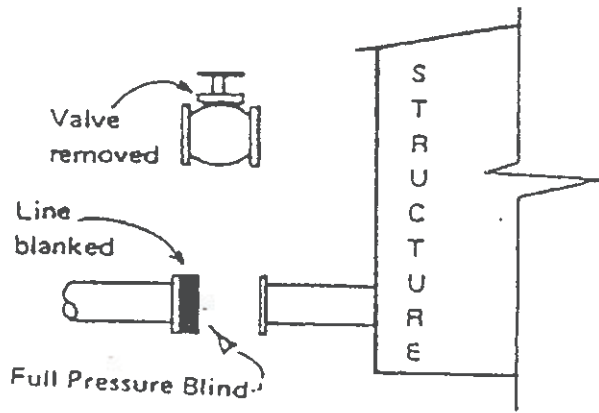
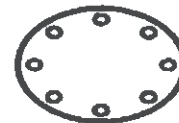

FIGURE 1
FIGURE 3
Open line shall be capped with a full pressure blind as illustrated in figures 1 and 2.
2. The use of slip blinds to isolate equipment or machinery from hazardous energy sources and/or hazardous materials is preferred over closing valves and locking them shut (lockout/tagout), disconnecting, misaligning, etc. See figure 3. The installation of a solid metal plate between two pipe flanges or on the end of a disconnected pipe to prevent any materials from being released.
Fisher Tank Company's construction forces cannot perform hot work on any tank unless it is physically isolated from connecting pipelines in a manner acceptable to Fisher Tank Company. Figures 1 and 2 show the preferred methods of isolating both old and new tanks. Figure 3 shows the double block and bleed method as an alternative method, but would require a written plan and approval.